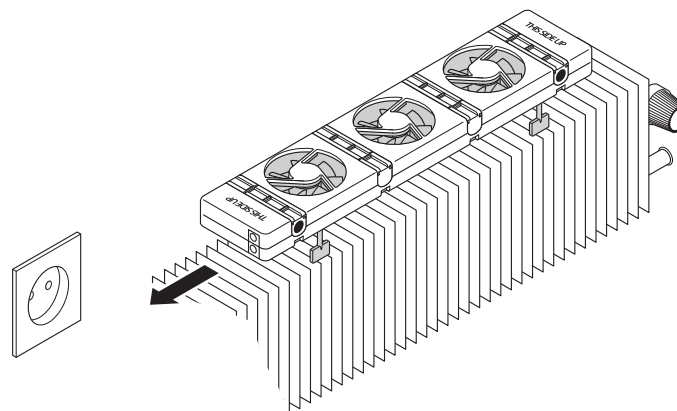

Fig. 9 – Placing the SpeedComfort (A) on the convector.
2. Ensure that the **SpeedComfort** (A) is facing upwards and that the female connectors (1) are pointing towards the socket (see Fig. 9).
3. Place the **SpeedComfort** (A) on top of the convector, leaving space between the sides of the convector and the **SpeedComfort** (A) to reduce noise (see Fig. 9). If space allows, the SpeedComfort can also be placed on the floor beneath the convector.